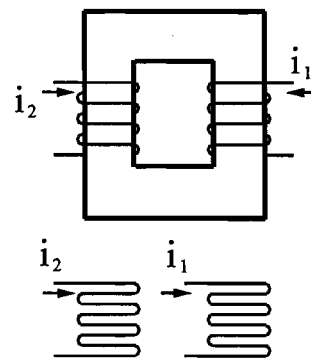

Fig. Q2-1
Q2, 20 pts: There are 2 coils in a magnetic circuit, N_1 , and N_2 carrying respectively a current I_1 , and I_2 . The polarities among the coils are shown in Fig. Q2-1 by the reference of the core and winding direction.
- (i). At the bottom of Fig. Q2-1, there is no reference of winding direction and hence a "dot" convention is adopted to show coupling direction. On Fig. Q2-1, mark the proper terminals of coil 1 and 2 with a 'dot' to carry the direction information from the top to the bottom figure.